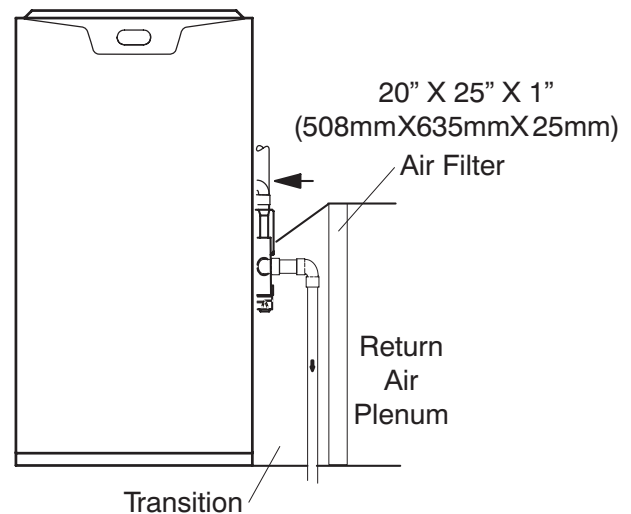

Figure 13
**ML196UHEK applications which include side return air and a condensate trap installed on the same side of the cabinet (trap can be installed remotely within 5 ft.) require either a return air base or field-fabricated transition to accommodate an optional IAQ accessory taller than 14.5". See Figure 13.**